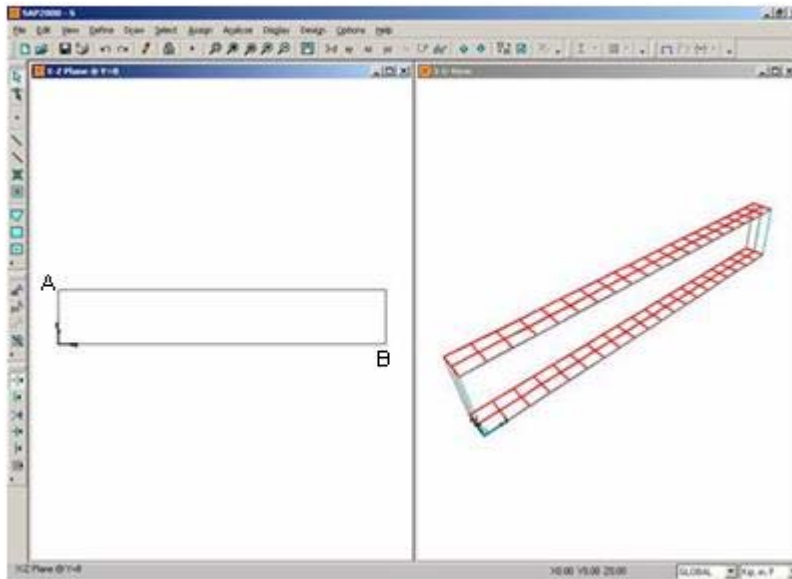

Figure S-2: Screen After Step 17
- Click the **OK** button. The screen appears as shown in Figure S-2.
19. Click on the point labeled “A” and then the point labeled “B” in Figure S-2 to draw an area object.